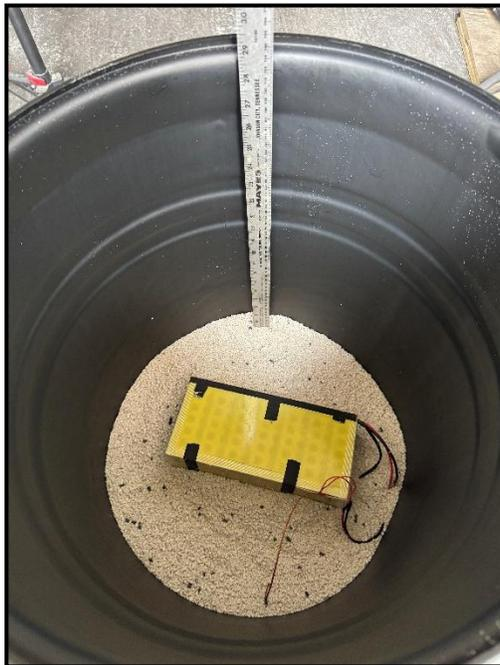

Figure 8
- Figure 8 shows the placement of the second pack. AkkuGrain was filled to the level of the first pack. Following this, approximately 3 inches of AkkuGrain was filled between the two packs.